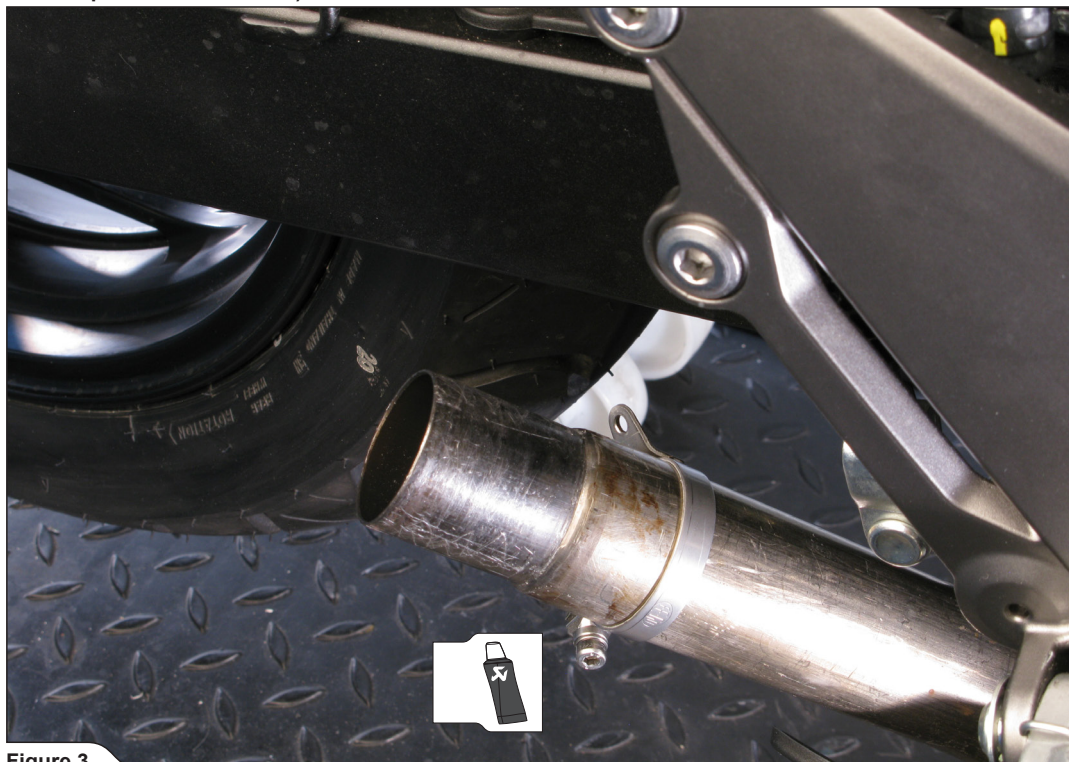

Figure 3
1. Orient and assemble the spring hook clamp from Akrapovič installation kit onto the stock pipe, exactly as shown (Figure 3, 4).